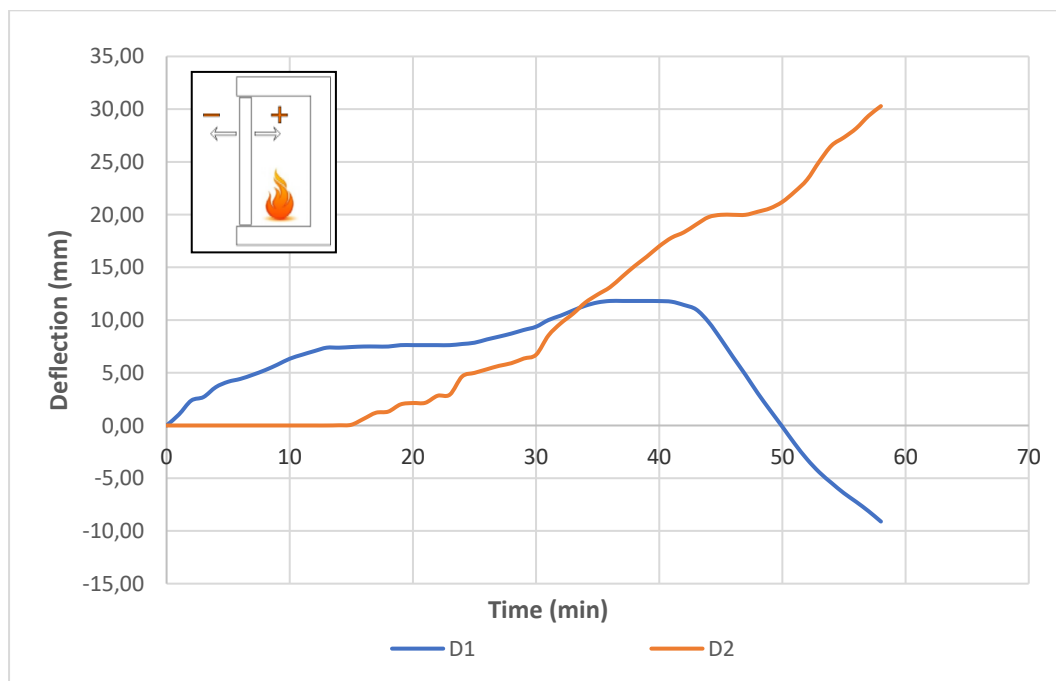

FIGURE 11
- 6.9 Figure 11 shows the deflections measured during the test of sample 7521-3.